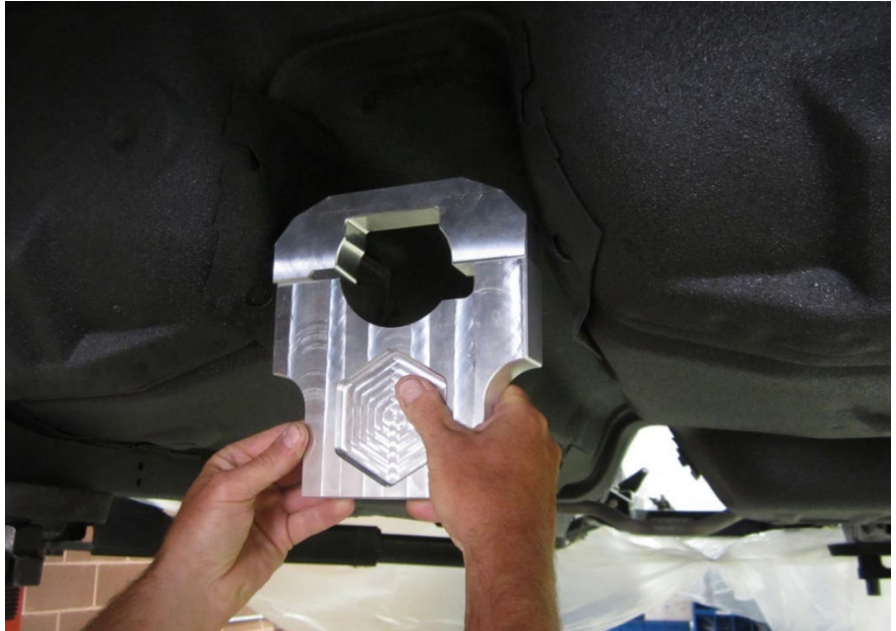

Figure 9: Dry fitting the billet clamp
- Dry fit the billet clamp onto the pinion mount and mark interference areas (refer to Figure 9).
- Bolt on the billet aluminum pinion clamp using the (2) SHCS.